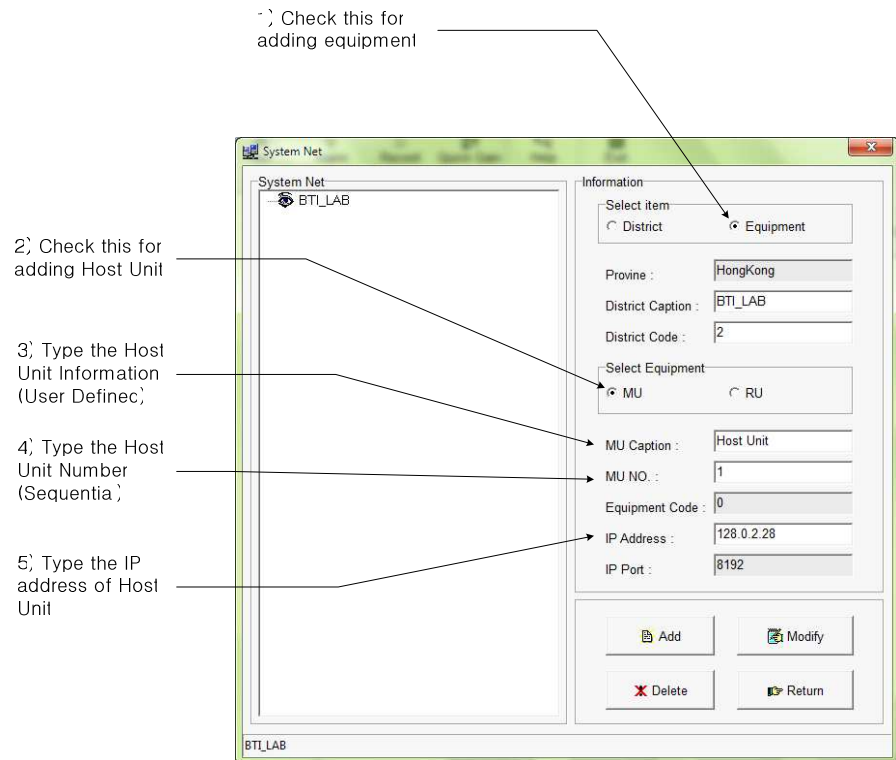
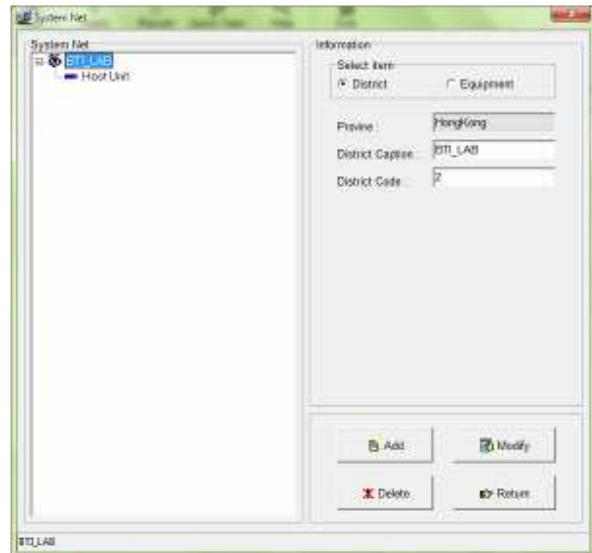

Figure 3-8. Add the Host Unit in the System configuration
Figure 3-9. Result Window after adding HU
- After configuring the District, the equipment should be defined. Check the **Equipment** title and new information sections will be appeared as shown in Figure 3-8. Host Unit should be defined first before adding Remote unit. Check the **MU** title and type the information for Host Unit. After filling the information, click the **Add** button. Figure 3-9 shows the result for adding Host Unit in the system configuration.